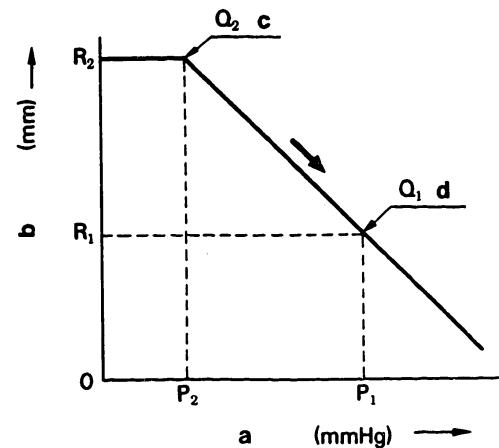

Fig. 174 Characteristic curve of aneroid compensator
- 2) Next, decrease the negative pressure of the aneroid compensator's atmospheric chamber to less than  $P_2$  mmHg, and then increase to  $P_2$  mmHg and check that the control rack position is  $R_2$  mm. Check that fuel injection quantity  $Q_2$  cc/1000 st is obtained at this point. Always measure the negative pressure in an increase direction (direction of the arrow). (Fig. 174)
\*Note: The following explains the relationship between negative pressure as shown in Fig. 174 and absolute pressure.
Zero point (ie. the intersection of the axes) in Fig. 174 equals absolute pressure at sea level (760 mmHg).
In relation to the negative pressure for example, the change from 0 to  $P_1$  mmHg on the horizontal axis in Fig. 174 is an increase in negative pressure.